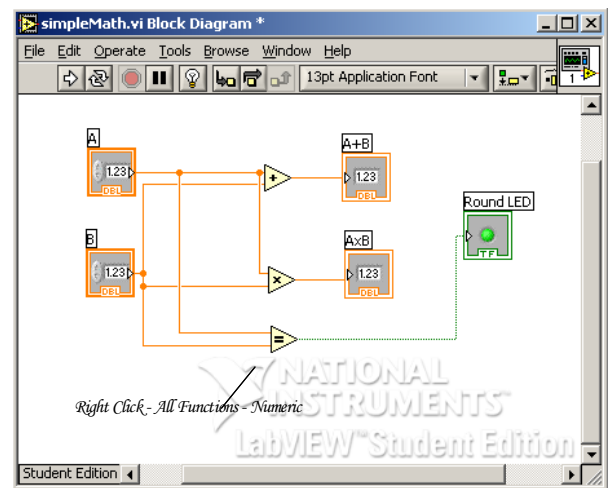

Figure 1B: Block Diagram
Step 2: Create the block diagram. The block diagram (Figure 1B above) is invoked by clicking Window – Show Block Diagram from the panel's menu bar. Again, one right clicks the mouse to bring up a menu of block element functions.